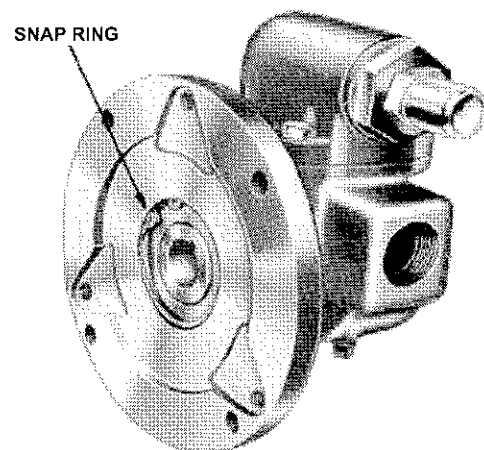

FIGURE 4
6. REMOVE THE MECHANICAL SEAL OR LIP SEALS. (See figure 4) Remove the snap ring in the casing of the two smaller pumps (G and GG sizes) and the complete seal can be removed out of the large flanged end of the casing.